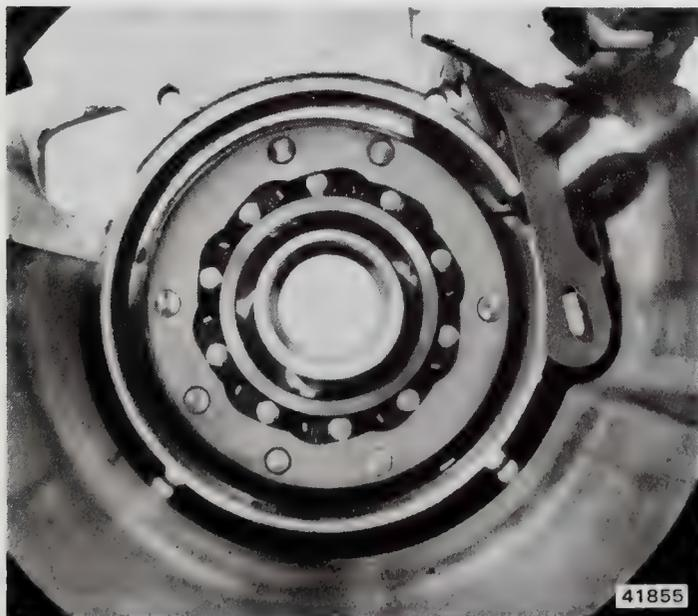

Fig. 2C-99 Overrunning Clutch and Rear Band Link Position
- (1) Place transmission case in upright position and install clutch cam and spring retainer.
- (2) Install clutch springs and rollers so springs rest against retainer post and rollers rest against springs, and with both springs and rollers installed on counter-clockwise side of spring retainer posts (fig. 2C-99).